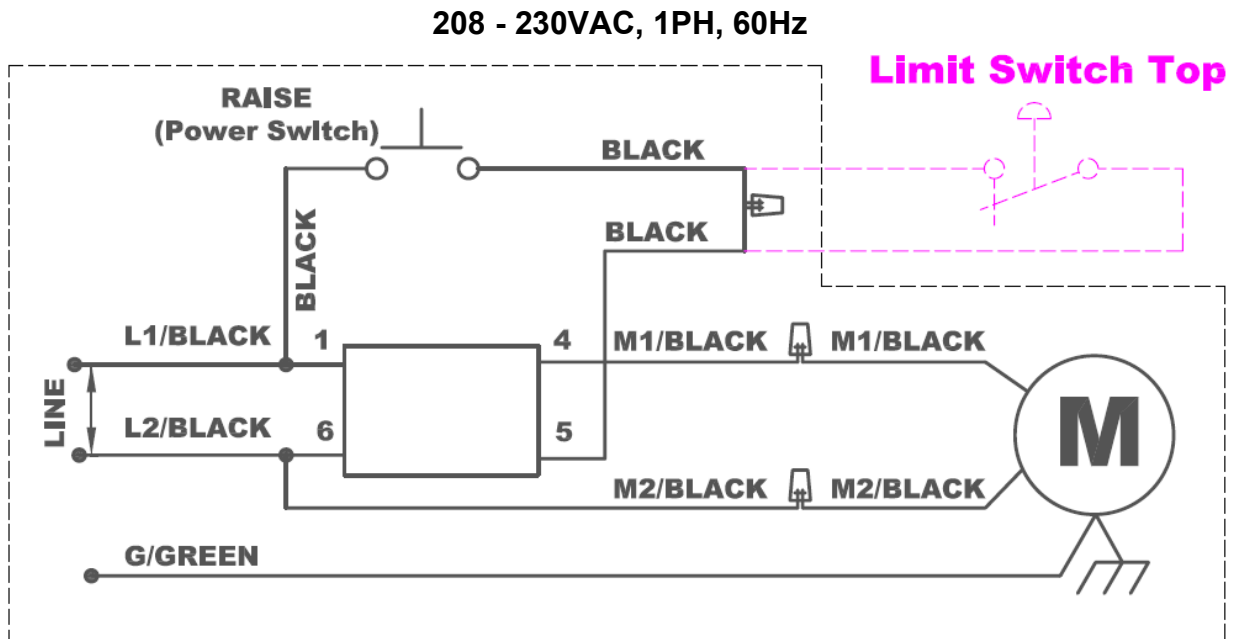

Fig. 15
- A. Have a certified electrician make the electrical connection from power supply to the power unit. Use separate circuit for each power unit, as shown below in (Fig. 15).
- B. Have a certified electrician make the electrical connection for the overhead limit switch to power unit's switch box, as shown in (Fig. 15).